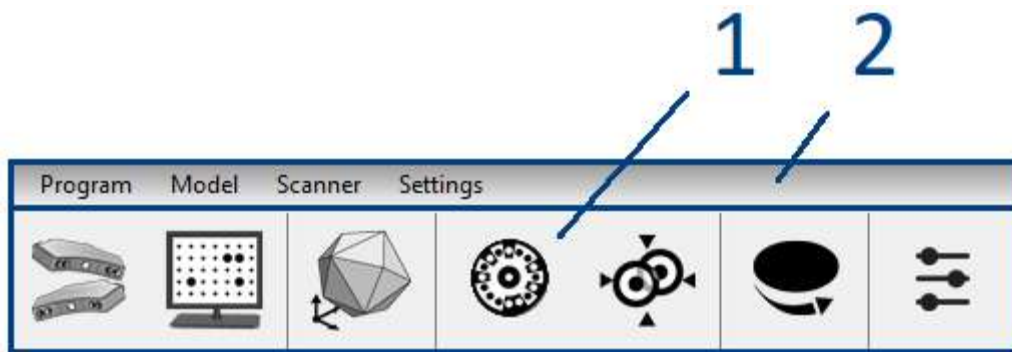

Fig. 5-3. Menu division into sub-sections
The drop-down menu (1) contains four major fields (Fig. 5-3). The full structure of the drop-down menu is as follows: